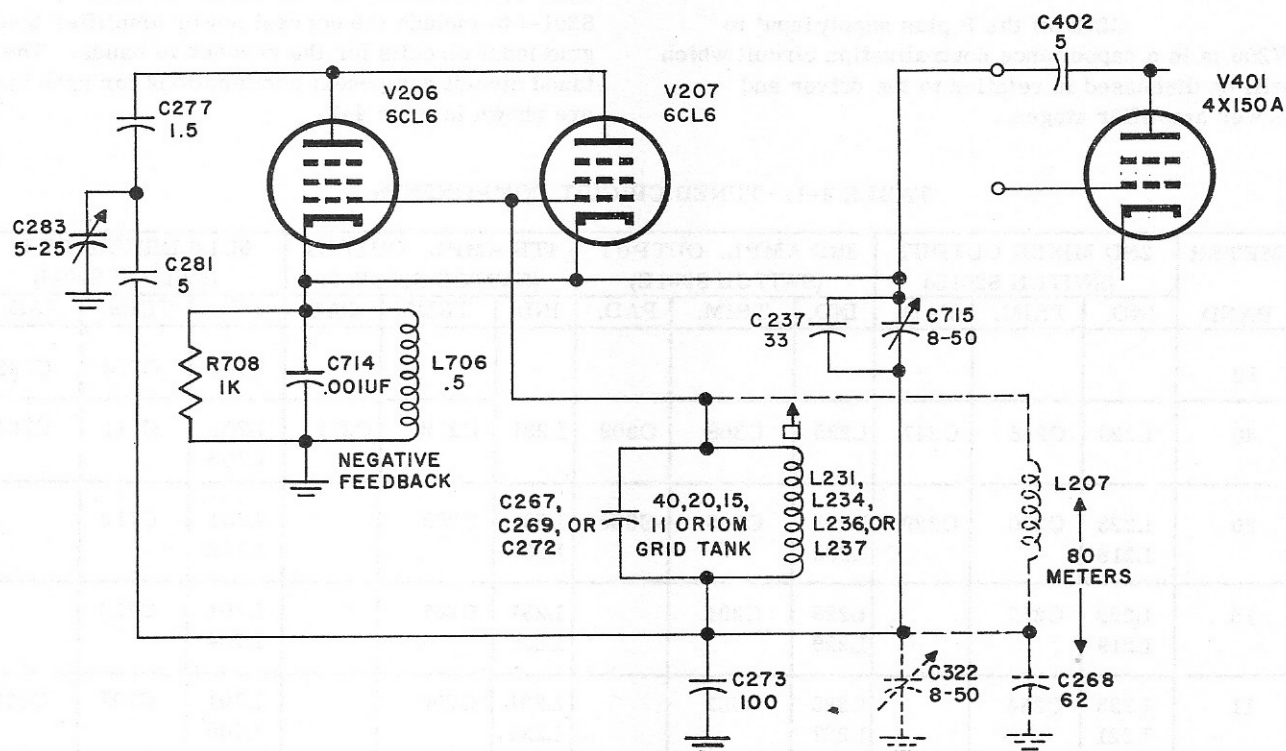
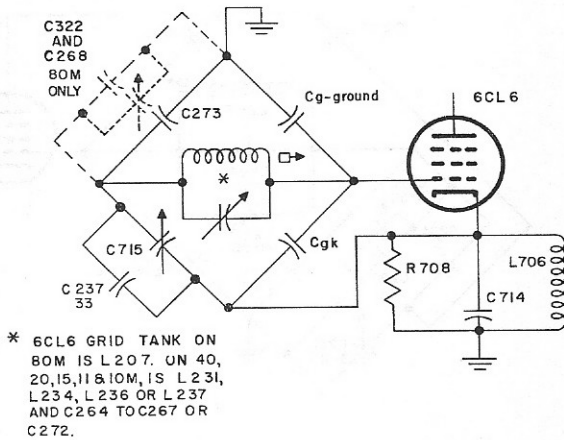

Figure 4-9. 6CL6 Driver Feedback and Grid-to-Cathode Neutralization Circuits, Simplified Schematic Diagram
Figure 4-10. 6CL6 Driver Grid-to-Cathode Neutralization Bridge Diagram
(1) **NEGATIVE FEEDBACK.** A portion of the power amplifier r-f output is fed back through C402 into the 6CL6 cathode circuit for the ultimate purpose of improving final amplifier stage linearity. (See figure 4-9.) At the 6CL6 cathodes, the feedback circuit consists of R708, L706 and C714. The choke, L706, provides a d-c return for the cathode. R708 loads the choke to lower the circuit "Q", preventing oscillations which could be caused by L706 resonating at the feedback frequencies. C714 forms a capacitive voltage divider with C402 off the 4X150A plate to provide the proper value of feedback voltage which produces approximately 12 db of feedback.
(a) 6CL6 GRID TO CATHODE NEUTRALIZATION. (See figures 4-9 and 4-10.) The cathode feedback voltage in the 6CL6 stages will appear on the grid tank circuits to cause stage oscillation, unless the feedback is neutralized. On the bridge diagram of figure 4-10, the feedback voltage is carried over from cathode to grid by the tube's internal grid-to-cathode (Cgk) capacitance. This capacitance forms a voltage divider with the
tube's grid-to-ground (Cgg) capacitance. The two capacitances, in series, comprise one side of the neutralization bridge. Neutralization is provided on the 40, 20, 15, 11 and 10-meter bands by condenser C715 and C273, which are in series and form a voltage divider from the 6CL6 cathode to ground. In this position, these capacitors form the other side of the neutralization bridge to balance out the undesired feedback voltage impressed across the Cgk and Cgg arms of the bridge. With the grid tank circuit across the midpoint of both bridge arms, the feedback is balanced out to eliminate this source of stage oscillations. The components of the bridge are shown on the simplified practical diagram of figure 4-9. On 80 meters only, C268 and C322 are placed in parallel to C273 to provide sufficient divider capacitance for neutralization at the 80-meter frequencies.